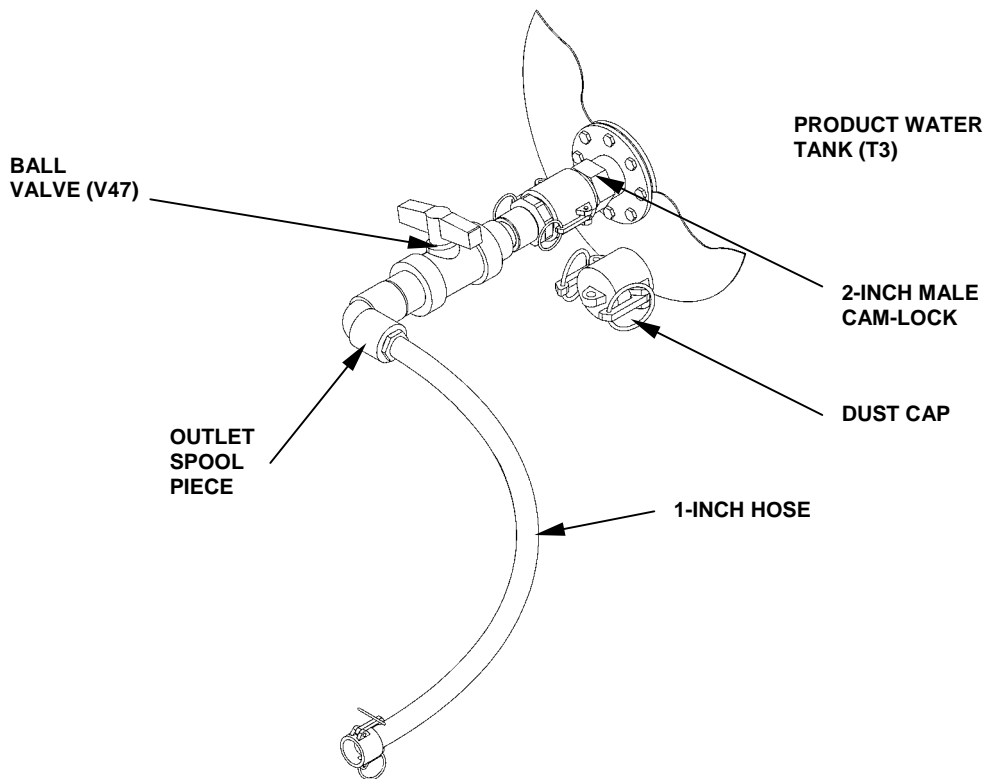

Figure 16. Product Tank Outlet Connection.
36. Connect the product water **outlet** spool piece to the tank's male connection (BB). Keep the ball valve (V47) on the spool piece closed until the tank is full and ready for distribution. See Figure 16.